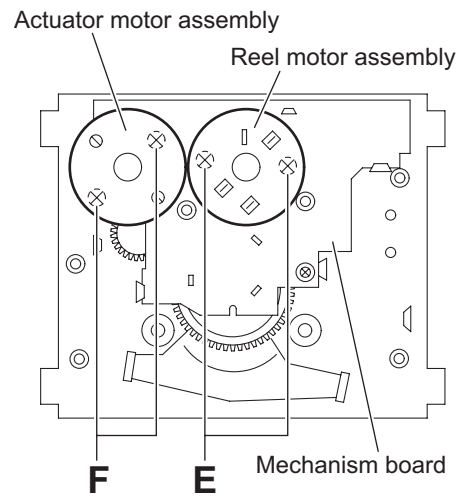

Fig.16
3.2.6 Removing the reel motor assembly (Fig.16)
- (1) Remove two screws **E** from rear of chassis and remove the reel motor assembly toward upward.
3.2.7 Removing the actuator motor assembly (Fig.16)